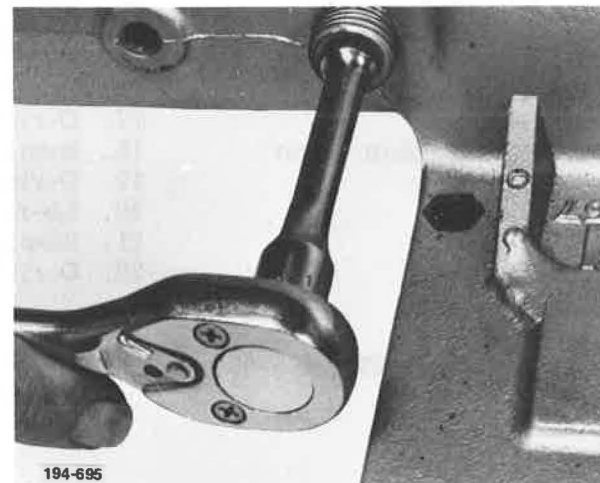

Figure 5-330. Removing Plug
7. Remove interlock plunger plug from air shift cover. See Figure 5-330.